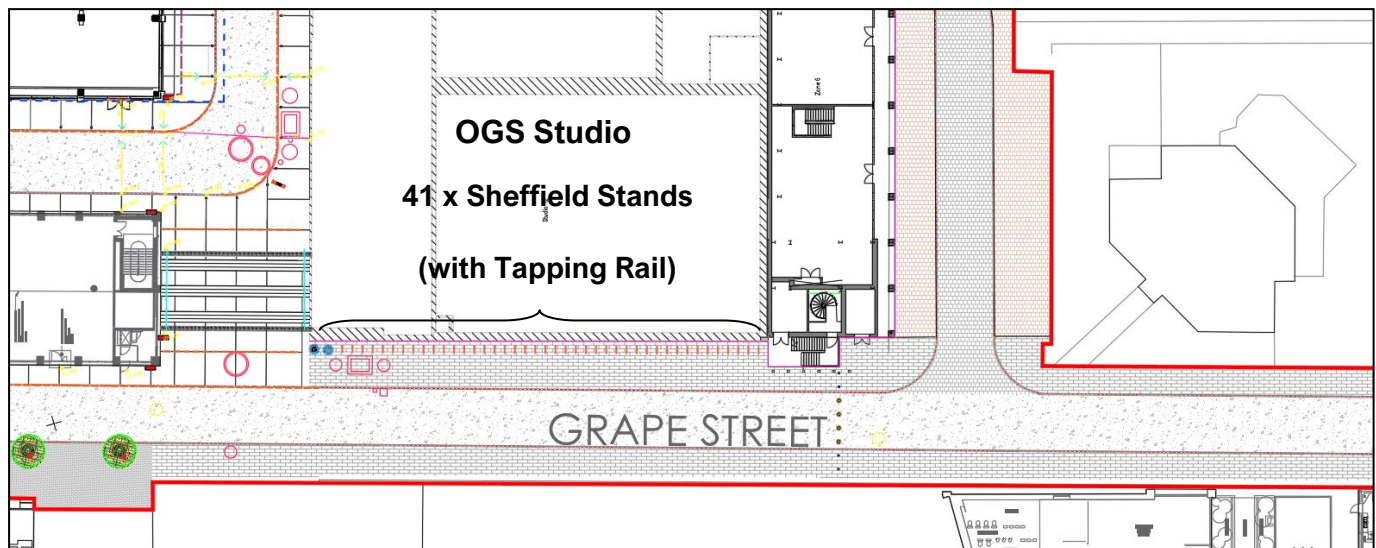

Figure 2.1 External Cycle Parking (41 Stands – 82 Cycles)
- 2.5 Externally visitors will benefit from cycle parking across the St Johns core site. Local to OGS there are 82 cycle parking spaces proposed along the southern facade of Studio 2, see **(Figure 2.1)**.